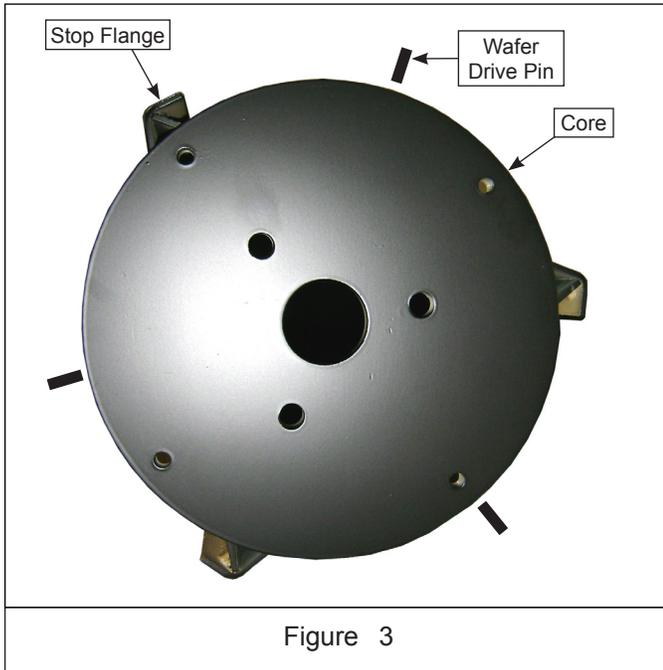

Figure 3
The level of the broom may create too heavy a brush pattern on either the left or right side. In order to balance the pattern, the Side-to-Side (Left-Right) Leveling Bolt in the Adjustment Arm (Figure 1) must be adjusted to compensate for the lean. See Figure 3.
- a. Note the location of the drive pin on the inside ring of each brush wafer. Position each wafer so its drive pin is positioned between the stop flanges. Rotate each subsequent wafer before installing so the position of its pin is staggered on the core by one stop flange. See Figure 3.